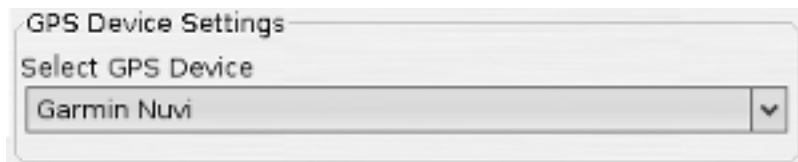

Figure 9.2. Garmin and TomTom Configuration
3. Under the "GPS Device Settings" section see Figure 9.2, "Garmin and TomTom Configuration" select the GPS device type of "Garmin Nuvi" or "TomTom" depending on your GPS device type.